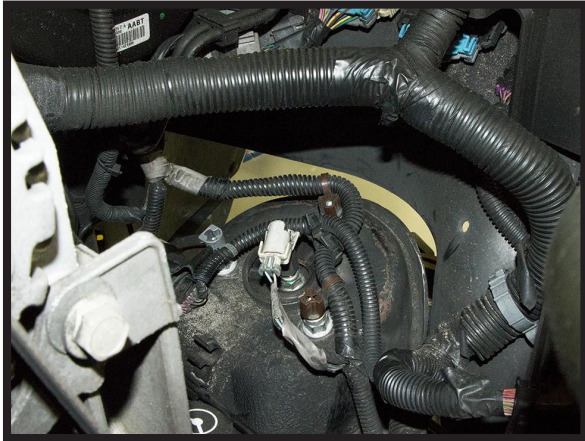

FIGURE 3
2. LIFT THE HOOD TO EXPOSE THE TOP OF THE COIL STRUTS. LOCATE AND DISCONNECT THE ELECTRICAL CONNECTORS. SECURE THE HARNESS IN A WAY NOT TO INTERFERE WITH ANY MOVING PARTS OR COMPONENTS WITH EXCESSIVE HEAT. (FIGURES 3, 4)